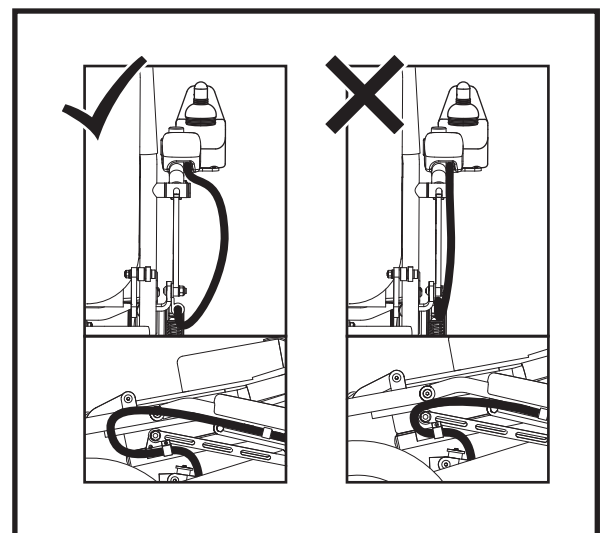

Figure 5. Controller Harness Pinch Point
**NOTE:** Ensure that the controller harness does not become pinched when folding and unfolding your power chair, as shown in figure 5. If pinching occurs, the harness was twisted prior to installation. Uninstall and untwist the controller harness, and ensure upon reinstallation that your power chair can fold and unfold without creating harness pinch points.